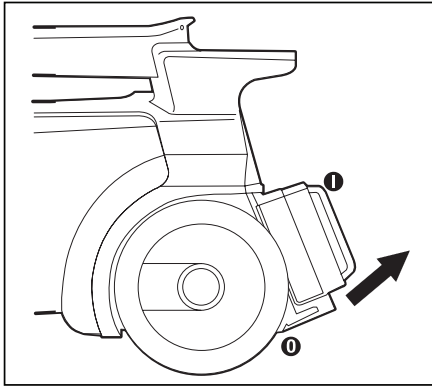

Fig. 13
Step 1: Grasp the bottom clips ② on the filter ① (Fig. 13).
Step 2: Pull out and down to release (Fig. 13).